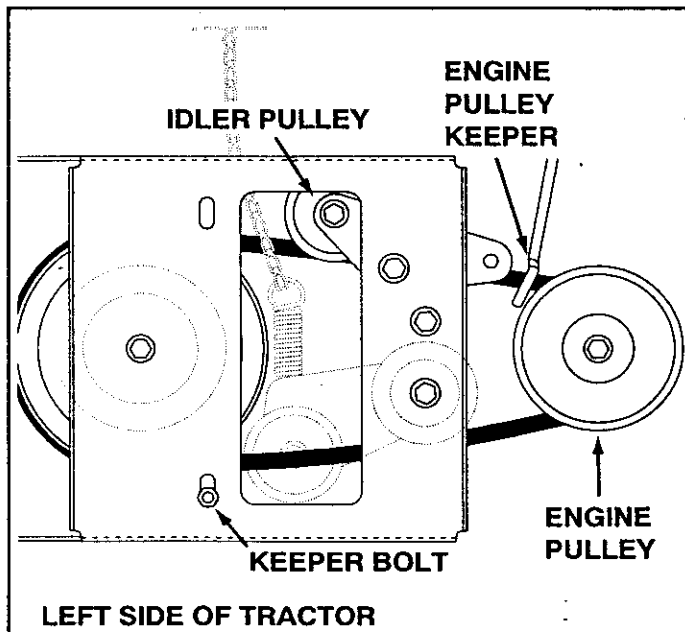

FIGURE 11 VIEWED FROM UNDERNEATH
- Assemble the short "V" belt onto the engine pulley so that it passes between the pulley and the engine pulley keeper. Next assemble the belt onto the large rear pulley on top of the clutch/idler assembly, passing it between the pulley and the keeper bolt located beside the pulley. Position the idler pulley against the outside of the belt. See figure 11. **IMPORTANT:** Make sure that the "V" belt is not assembled around the outside of the engine pulley keeper or the keeper bolt.